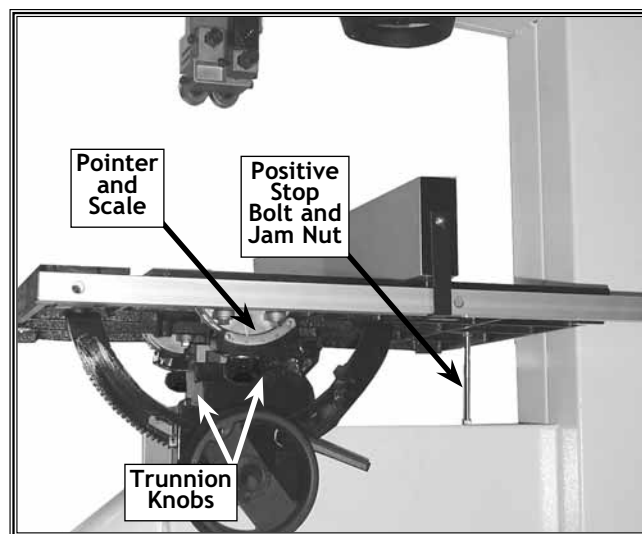

Figure 28. Table controls.
The table can be adjusted 45° to the right or 15° to the left. There is a positive stop bolt (see **Figure 28**) that mounts to the body, under the table. When adjusted correctly, this allows you to bring your table back to 0° after cutting at an angle. When the positive stop bolt is removed, the table automatically tilts 15° to the left. There is also an adjustable pointer mounted to the trunnion base. This works with the table trunnion gauge to show you the angle of table tilt.
1. Loosen the trunnion knobs under the table. See **Figure 28**.